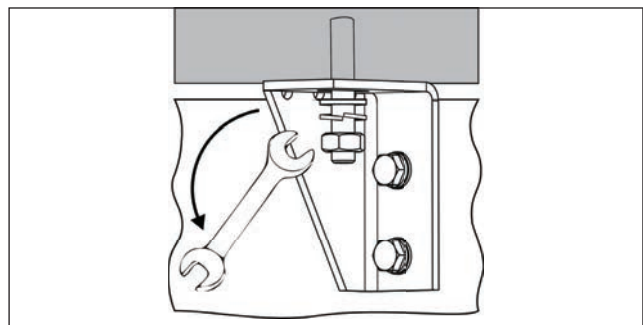

Fig. 9.3
3. Fix the unit cooler in its position (Fig. 9.3). Use all the provided fastening points.